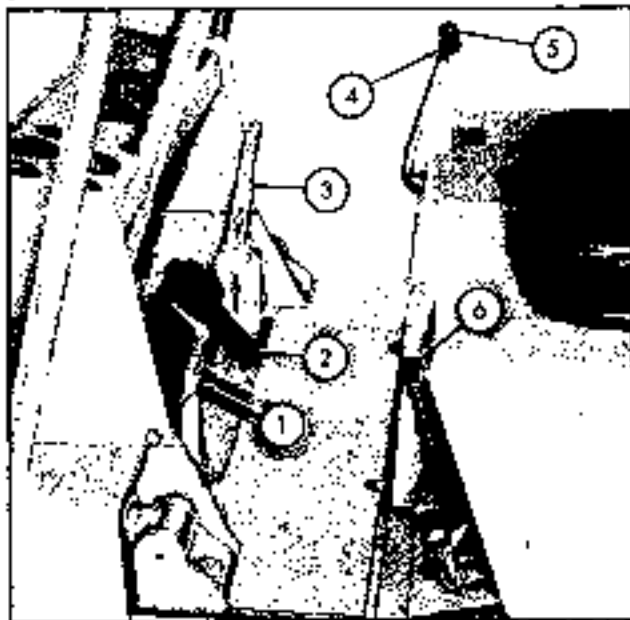

Fig. 1-6. Controls
c. It may be necessary to use the choke (6, figure 1-6) to enrich the gas-air mixture when starting, especially during cold weather. Allow the engine to warm up gradually to its normal operating temperature (approx. 180° F.). Do not race the engine during the warm-up period.